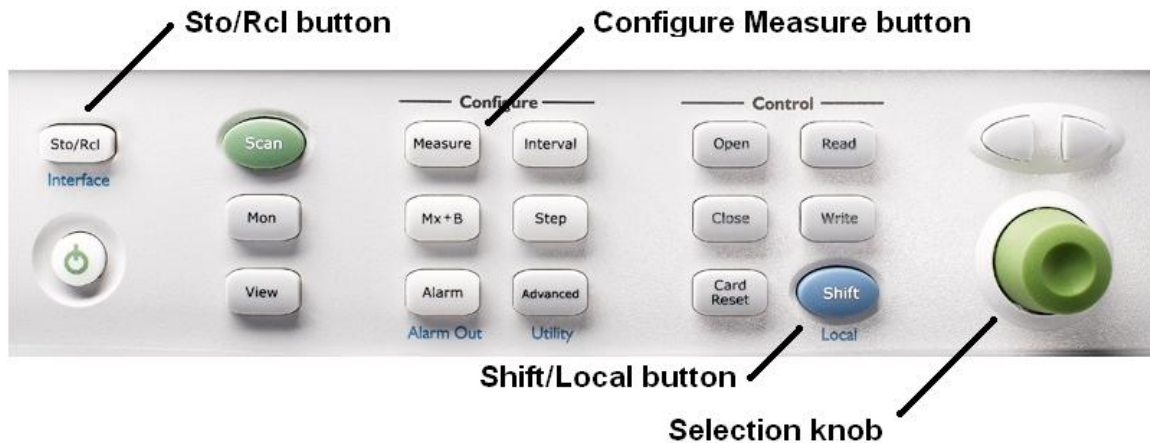

Figure 3 - 34972A front panel and key buttons for this lab
The 34972A channels can be selected and measurements made from the front panel. This section of the lab will introduce you to these manual control methods. Refer to figure 3 for this portion of the lab.
- Press blue **Shift** button once (see figure 3)
- Press **Sto/Rcl (Interface)** button six (6) times until display shows **IP ADDRESS**